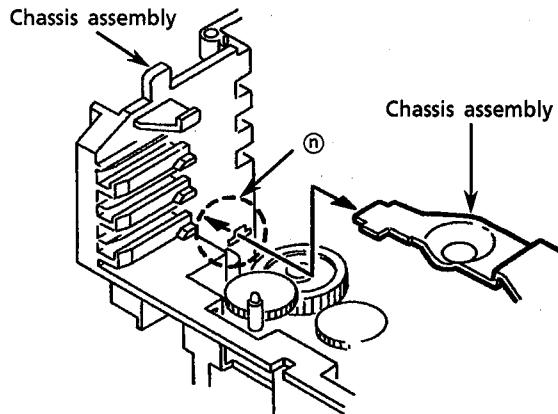

Fig. 45
3. Remove the gear bracket from the chassis ass'y's ⑫ securing top of the gear bracket. (See Fig. 45.)